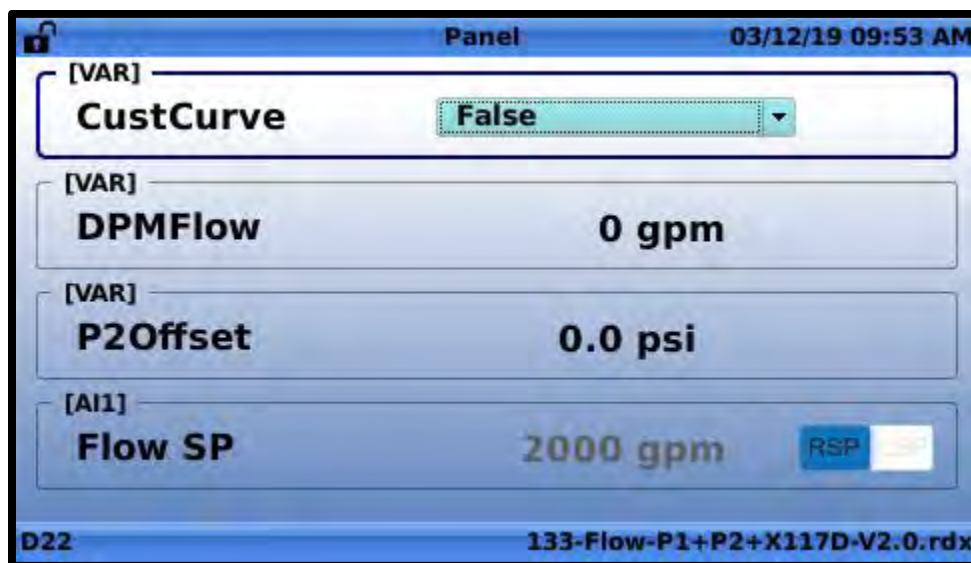

Figure 8.3
1. Starting from the home screen, press short down and wait for the interactive variable screen to be displayed as shown in **FIGURE 8.3**.